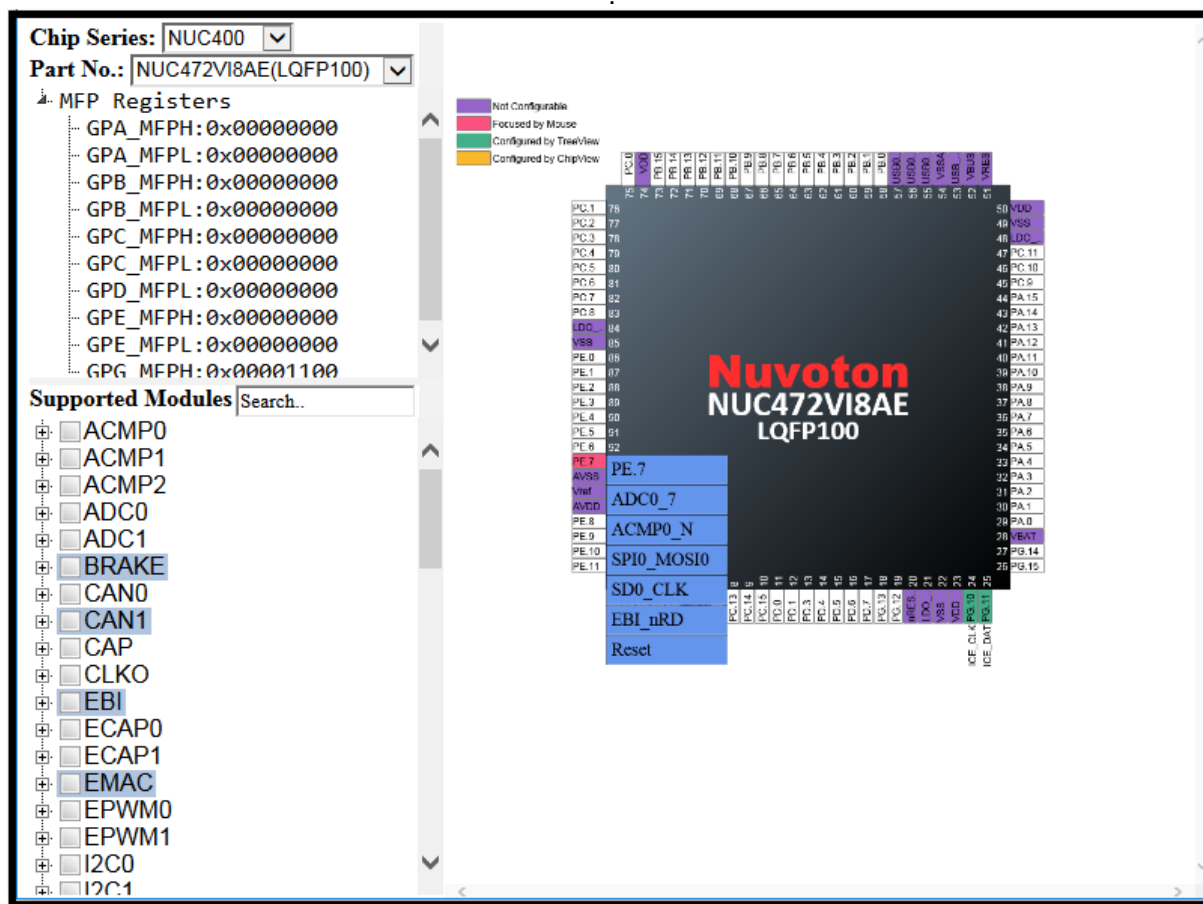

Figure 3-11 List of All the Related GPIO Multi-functions
1. Move the mouse cursor to the expected pin and click on the left button of the mouse. Then the list of all the related GPIO multi-functions will emerge in the vicinity of the pin (referring to Figure 3-11).